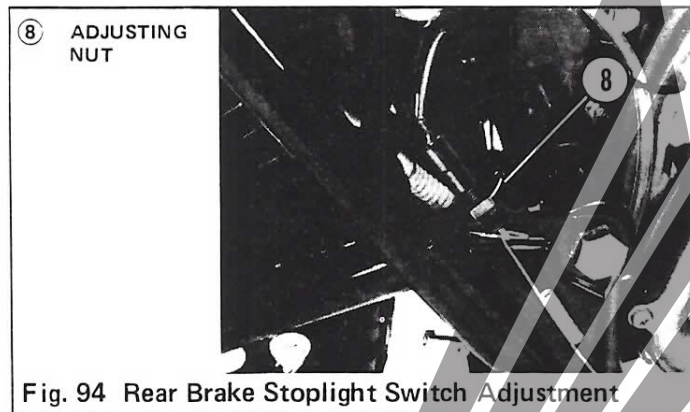

Fig. 94 Rear Brake Stoplight Switch Adjustment
All Honda motorcycles intended for street use are equipped with a rear brake stoplight switch of the type illustrated in Fig. 94 & 95. The rear brake pedal is connected to the operating rod ⑥ of the switch. When the pedal is depressed, this pulls the operating rod down, and the metal tip of the rod completes a circuit between the contacts ④, lighting the stoplight. When the brake pedal is released, an internal spring ⑦ retracts the operating rod, and its metal tip is withdrawn from contact, breaking the circuit.